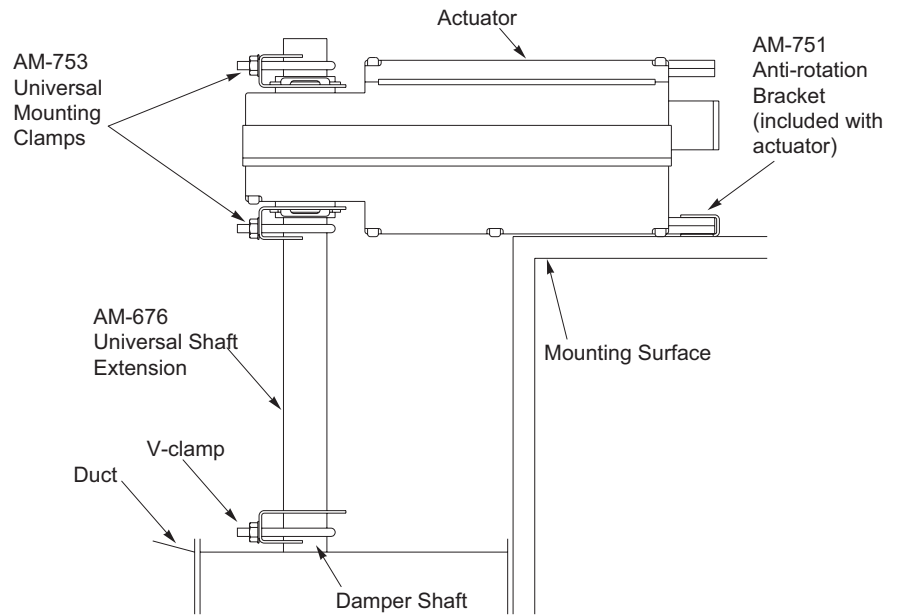

Figure-9 Installation of Universal Shaft Extension.
See Figure-9 for installation of actuator using the AM-676 Universal Shaft Extension. Installation requires AM-676 Universal Shaft Extension and AM-753 Universal Mounting Clamps for 3/4" to 1" (19 to 25 mm) shafts, these items must be ordered separately.
6. Assemble the damper actuator onto the universal shaft extension, allowing the extension to slide through the actuator's universal mounting clamps. Make sure the actuator is 90° (perpendicular) to the damper shaft. Then, hand tighten the nuts on both of the actuator's universal mounting clamps. See Figure-9
8. Position the actuator and bracket in the desired final mounting position on the mounting surface and drill mounting holes. See Figure-9.